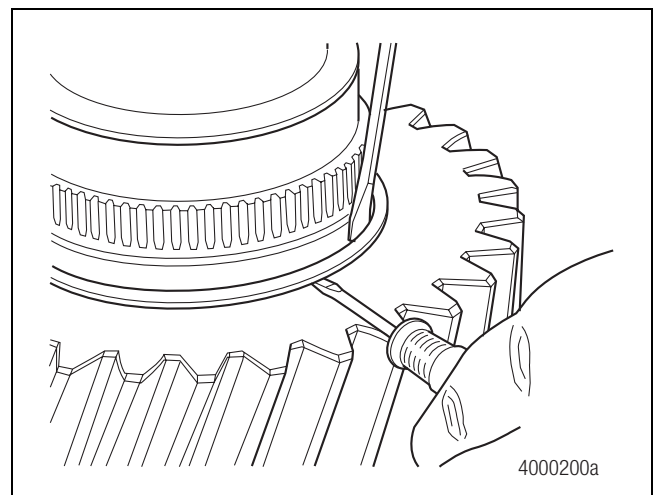

Figure 4.13
4. Remove the spiral snap ring that retains the small helical gear on the input shaft. Lift the small helical gear off the shaft. Figure 4.13.